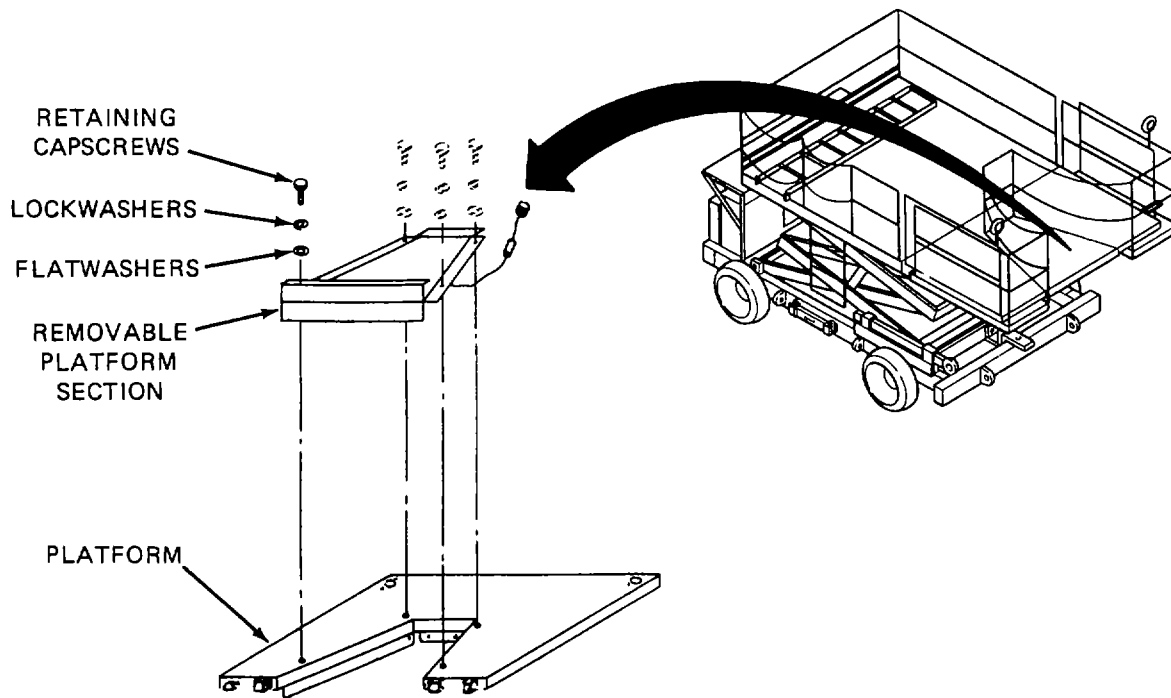
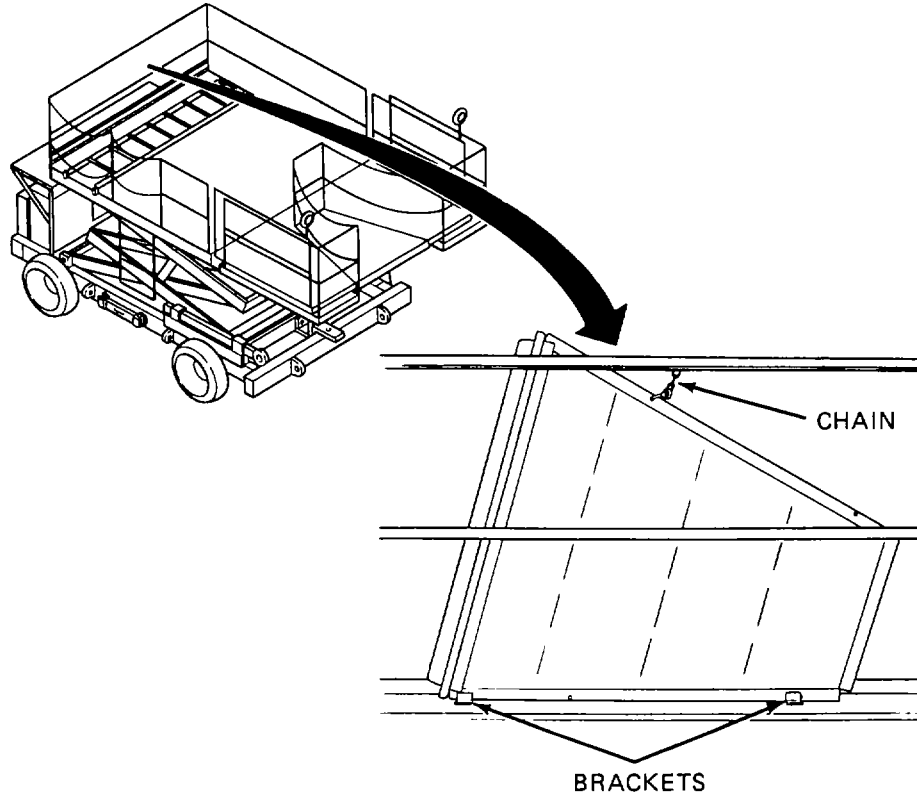

Figure 2-16. Removable Platform Section.
Figure 2-17. Platform Section Storage Brackets.
- (c) Remove four retaining capscrews, lockwashers and flatwashers. See Figure 2-16.
- (d) Remove platform section and store in brackets at the rear of the platform. See Figure 2-17.
(2) To install section:
- (b) Place the platform section in position and align holes. See Figure 2-16.